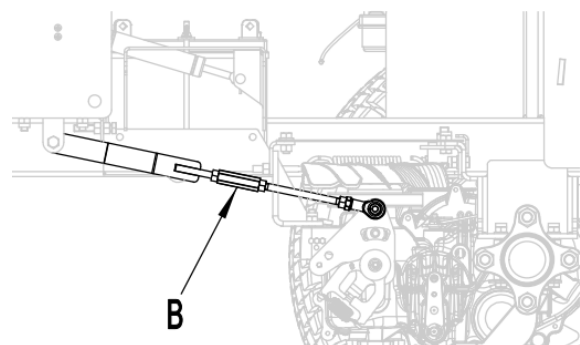

Fig. 22
- If the left wheel rotates clockwise, Loosen the adjustment bolt (Refer to the position B of Fig. 22) counterclockwise until the wheel does not rotate.